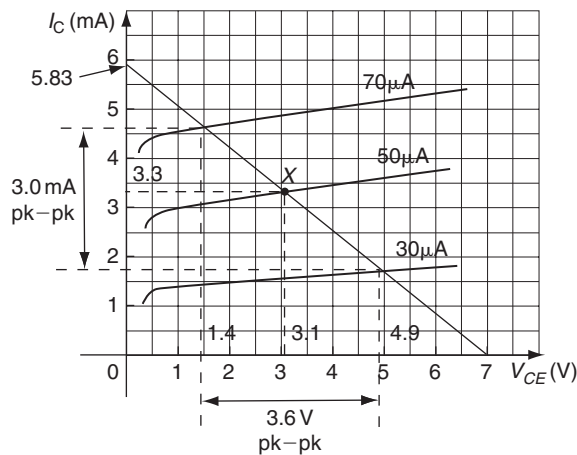

Figure 12.26
The characteristics are drawn as shown in Fig. 12.26.
- (b) The maximum and minimum values of collector-emitter voltage may be determined by locating the appropriate intercept points on Fig. 12.26. Note that the maximum and minimum values of base current will be $(50\text{ }\mu\text{A} + 20\text{ }\mu\text{A}) = 70\text{ }\mu\text{A}$ on positive peaks of the signal and $(50\text{ }\mu\text{A} - 20\text{ }\mu\text{A}) = 30\text{ }\mu\text{A}$ on negative peaks of the signal. The maximum and minimum values of V_{CE} are, respectively, 4.9 V and 1.4 V. Hence,
From Fig. 12.26, the output current swing, i.e. the change in collector current, $\Delta I_C = 3.0\text{ mA}$ peak to peak. The input base current swing, the change in base current, $\Delta I_B = 40\text{ }\mu\text{A}$